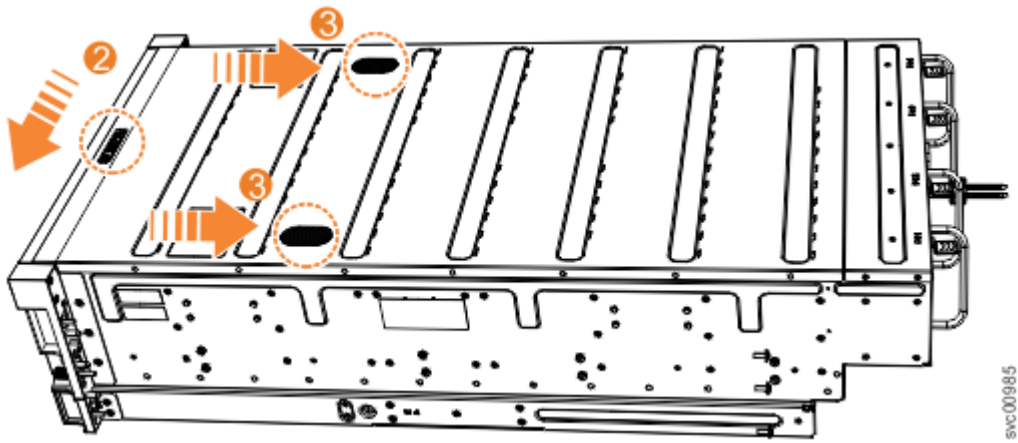

Figure 44. Replacing the 2077-92F, 2077-A9F top cover
2. Push the cover release lever to the side (2) as shown in Figure 44 on page 49.
3. Slide the cover towards the back of the enclosure (3) back until it stops, as shown in Figure 44 on page 49.